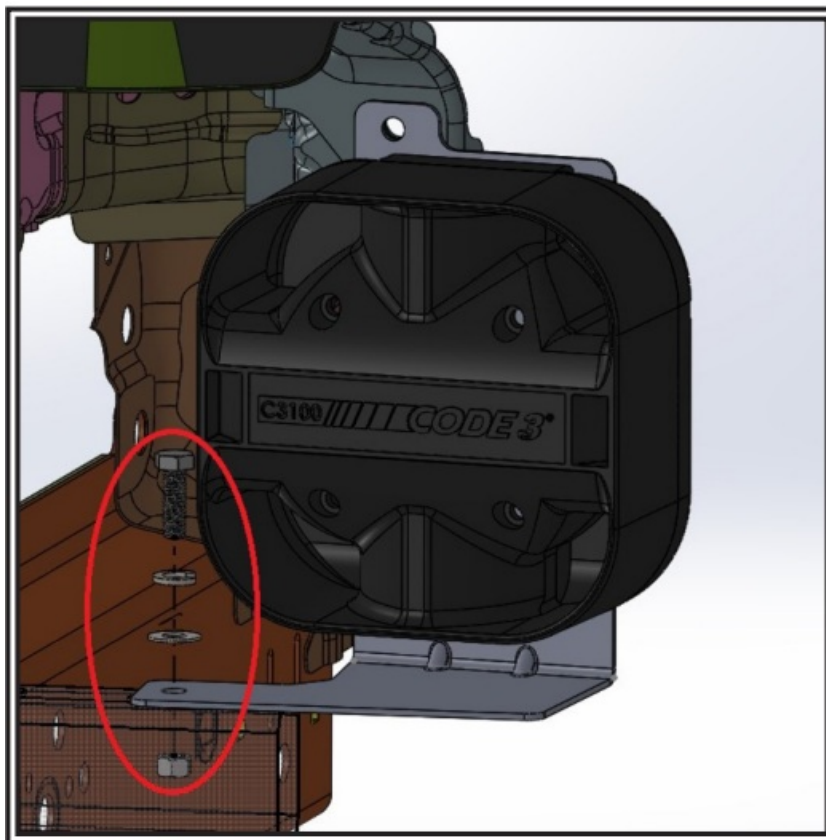

Figure 2
3. Using the supplied hardware. Mount the speaker to the front bumper. See Figure 2.